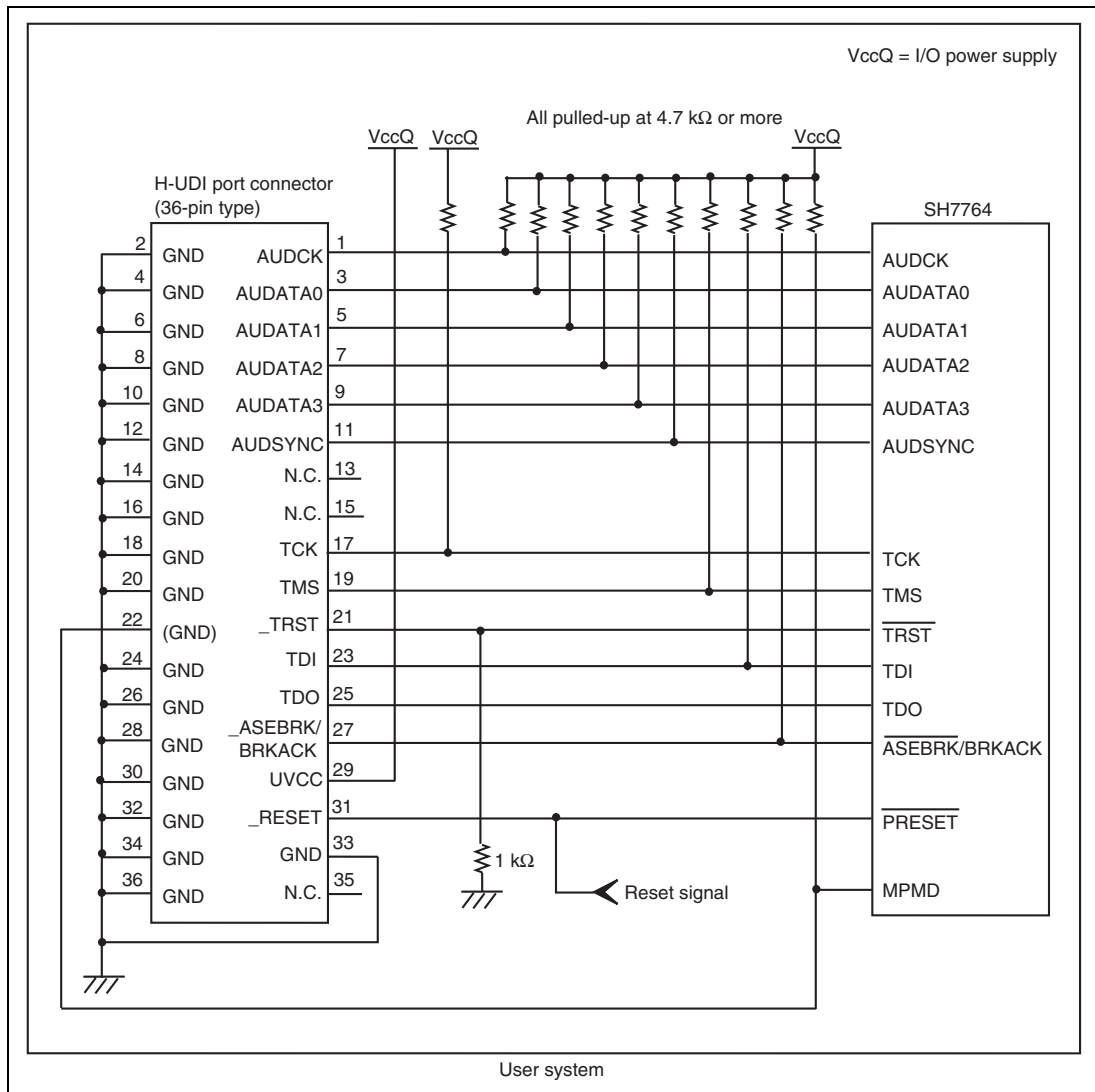

Figure 1.5 Recommended Circuit for Connection between the H-UDI Port Connector and MPU when the Emulator is in Use (36-Pin Type)
Figure 1.5 shows a recommended circuit for connection between the H-UDI and AUD port connectors (36 pins) and the MPU when the emulator is in use.
- (1) When the emulator is used: MPMD = 0
- (2) When the emulator is not used: MPMD = 1Figure 1.5 shows an example of circuits that allow the MPMD pin to be GND (0) whenever the emulator is connected by using the user system interface cable. When the MPMD pin is changed by switches, etc., ground pin 22. Do not connect this pin to the MPMD pin.
7. The resistance values shown in figure 1.5 are preliminary.
When the circuit is connected as shown in figure 1.5, the switches of the emulator are set as SW2 = 1 and SW3 = 1. For details, refer to section 3.8, Setting the DIP Switches, in the SuperH™ Family E10A-USB Emulator User's Manual.